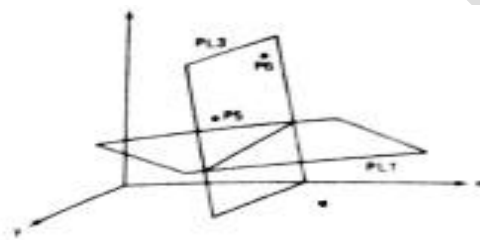

FIGURE A8.14
3. By two points and being perpendicular to another plane. See Figure A8.14.